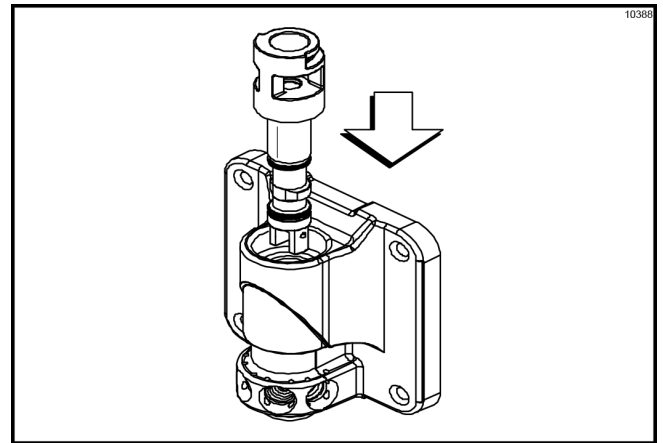

Figure-120
11. Insert and align the draw valve spinner assembly into the shake door as shown. (See Figure-120.)